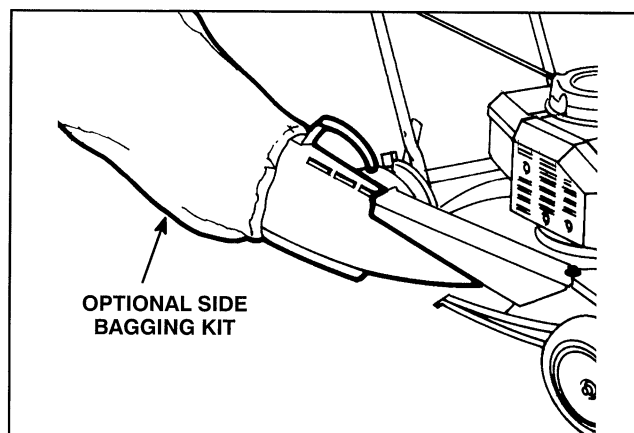

Figure 23
**47–6510**—Side bag kit (Fig. 23) lets you bag lush grass in spring to help keep your lawn free of clippings. In the fall, bag leaves while you mow to eliminate the hand-blistering raking job.